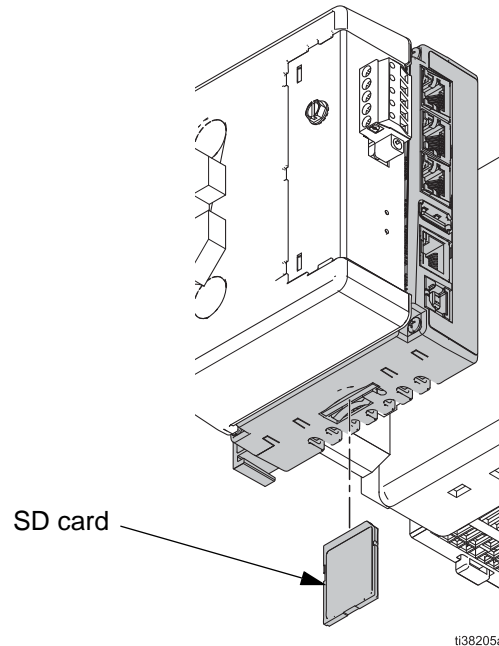

FIG. 17: Install an SD Card
The SD socket accepts either Type I or Type II cards. These cards are available at most computer and office supply retailers. Use cards with a minimum of 4 Mbytes and a maximum of 2 Gbytes. Use the SD card for optional database storage only. See FIG. 17.
2. Install the SD card in the orientation shown in FIG. 17.